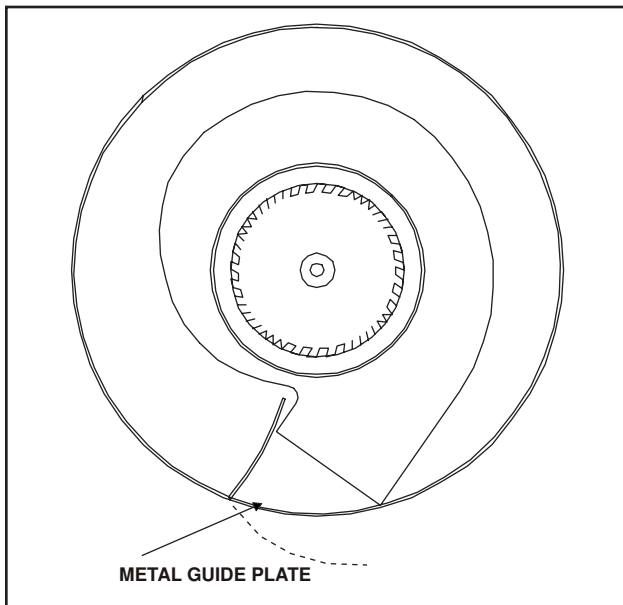

Figure 14
- B. The metal exhaust guide plate will have to be bent back inside the blower assembly. See Figure 14.